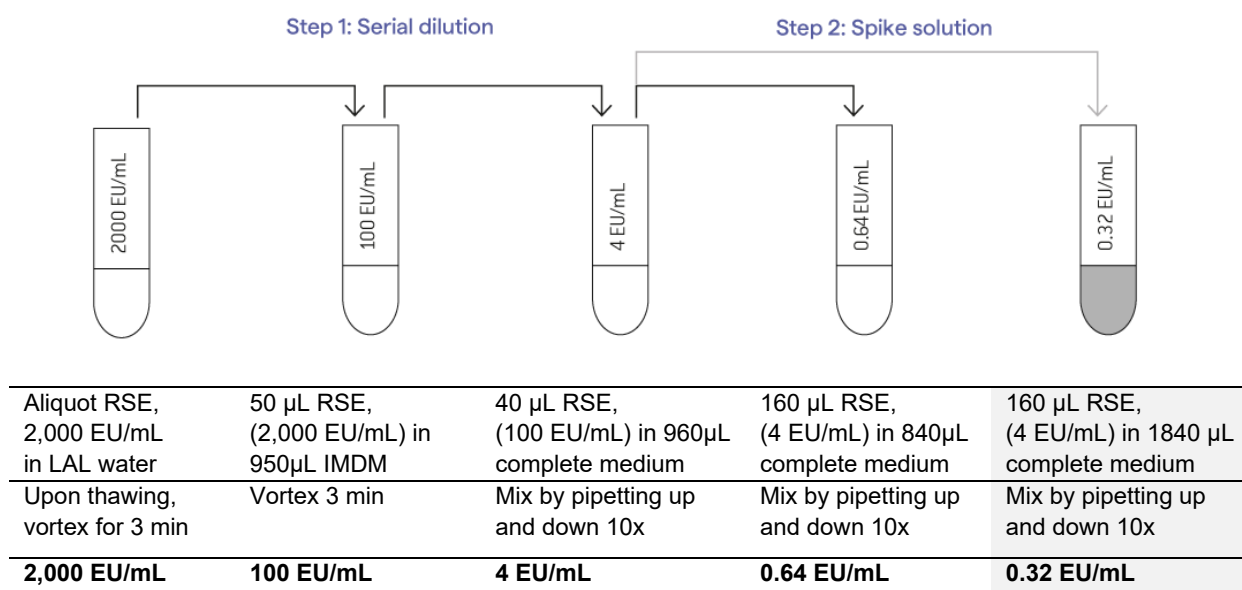

Fig. 6B: Serial dilution, prepare 0.64 EU/mL endotoxin dilution and 0.32 EU/mL spike solution.
Prepare a dilution series starting at 0.64 EU/mL with two-fold dilutions down to 0.04 EU/mL (0.64 – 0.32 – 0.16 – 0.08 – 0.04 EU/mL), and a blank in sterile, non-pyrogenic borosilicated glass tubes (# N207). An example for a dilution series is shown in **Fig 6B** below:
9. Save the remaining 4 EU/mL RSE solution prepared at step 2 for preparation of endotoxin spiked samples (see section 5.3.3 and **Fig. 6B**).